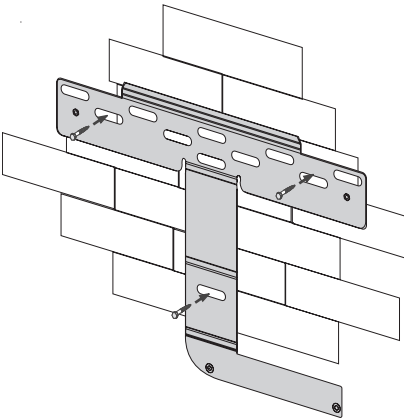
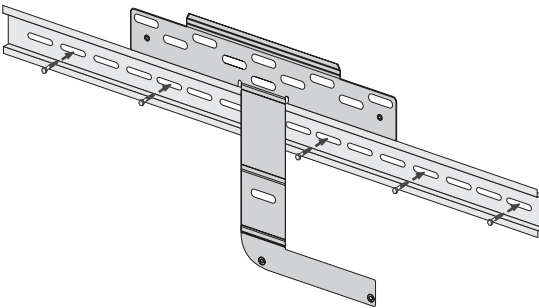

Figure 4-5: Mounting Bracket (stone wall mounting)
Figure 4-8: Sunny Boy with Mounting Bracket on DIN Rail
The Sunny Boy is shipped with a T-shaped wall-mounting bracket that is suitable for use with most walls (see Figure 4-5 through Figure 4-8). The horizontal part of the bracket has 10 holes. Use the 4 outermost holes of the wall-mounting bracket for mounting on wooden stud walls. Make sure that the wall you choose to mount the Sunny Boy on is sturdy enough to support its weight (40 kg / 88 lb.) over a long period of time and that the wall is plumb. The bracket may also be mounted on stone, brick or solid walls. Be sure to use the appropriate type of mounting hardware for the wall material and ensure that the hardware is no smaller than 1/4".
5. Insert the screws through the holes in the wall-mounting bracket and into the holes you drilled in the wall. Tighten the screws until the bracket is held firmly against the wall (see Figure 4-5). Do not overtighten the screws.